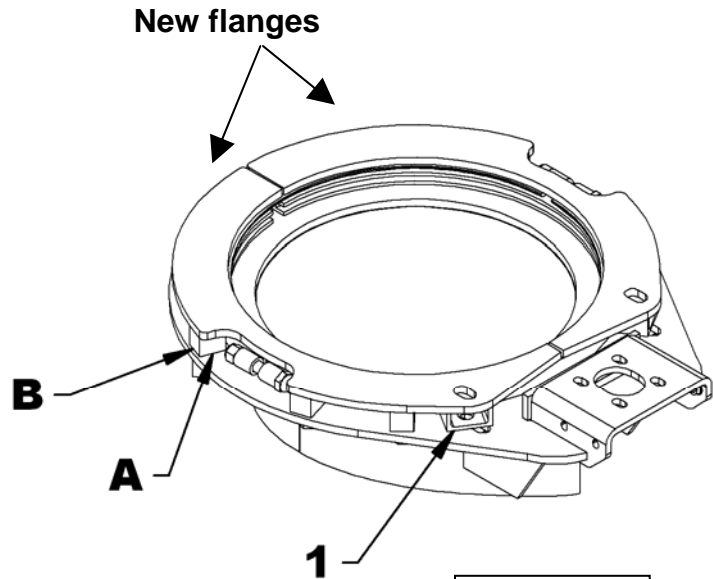

Figure 6A
3. **Figure 6A:** Trace lines on each side of the blocks (A) and on the outside face (B) of the blocks.